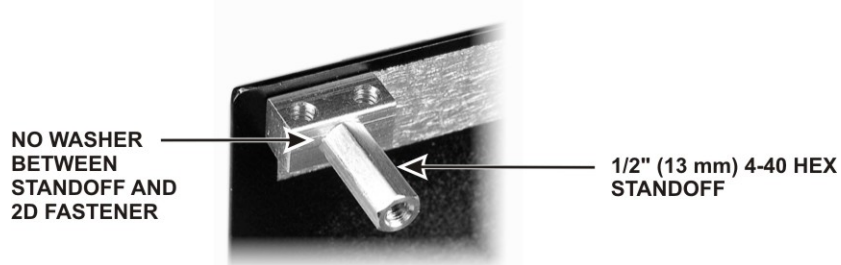

Figure 23. KANT3/KAT3 Mounting Standoff.
□ Screw a 4-40 1/2" (13 mm) standoff onto the exposed end of the screw as shown in Figure 23. **Do not use a lock washer between the standoff and the 2D fastener.** Tighten the standoff securely against the 2D fastener. Set the side panel aside temporarily.